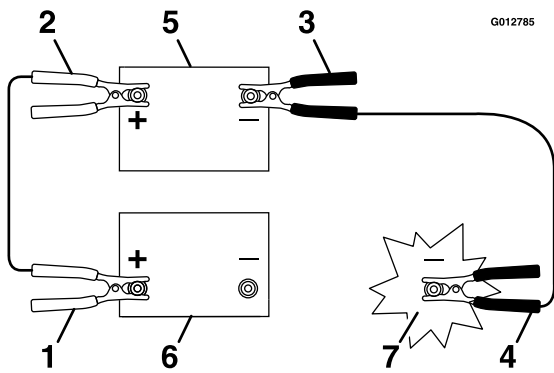

Figure 62
3. Connect the positive (+) cable to the positive (+) terminal of the discharged battery that is wired to the starter or solenoid as shown in Figure 62.